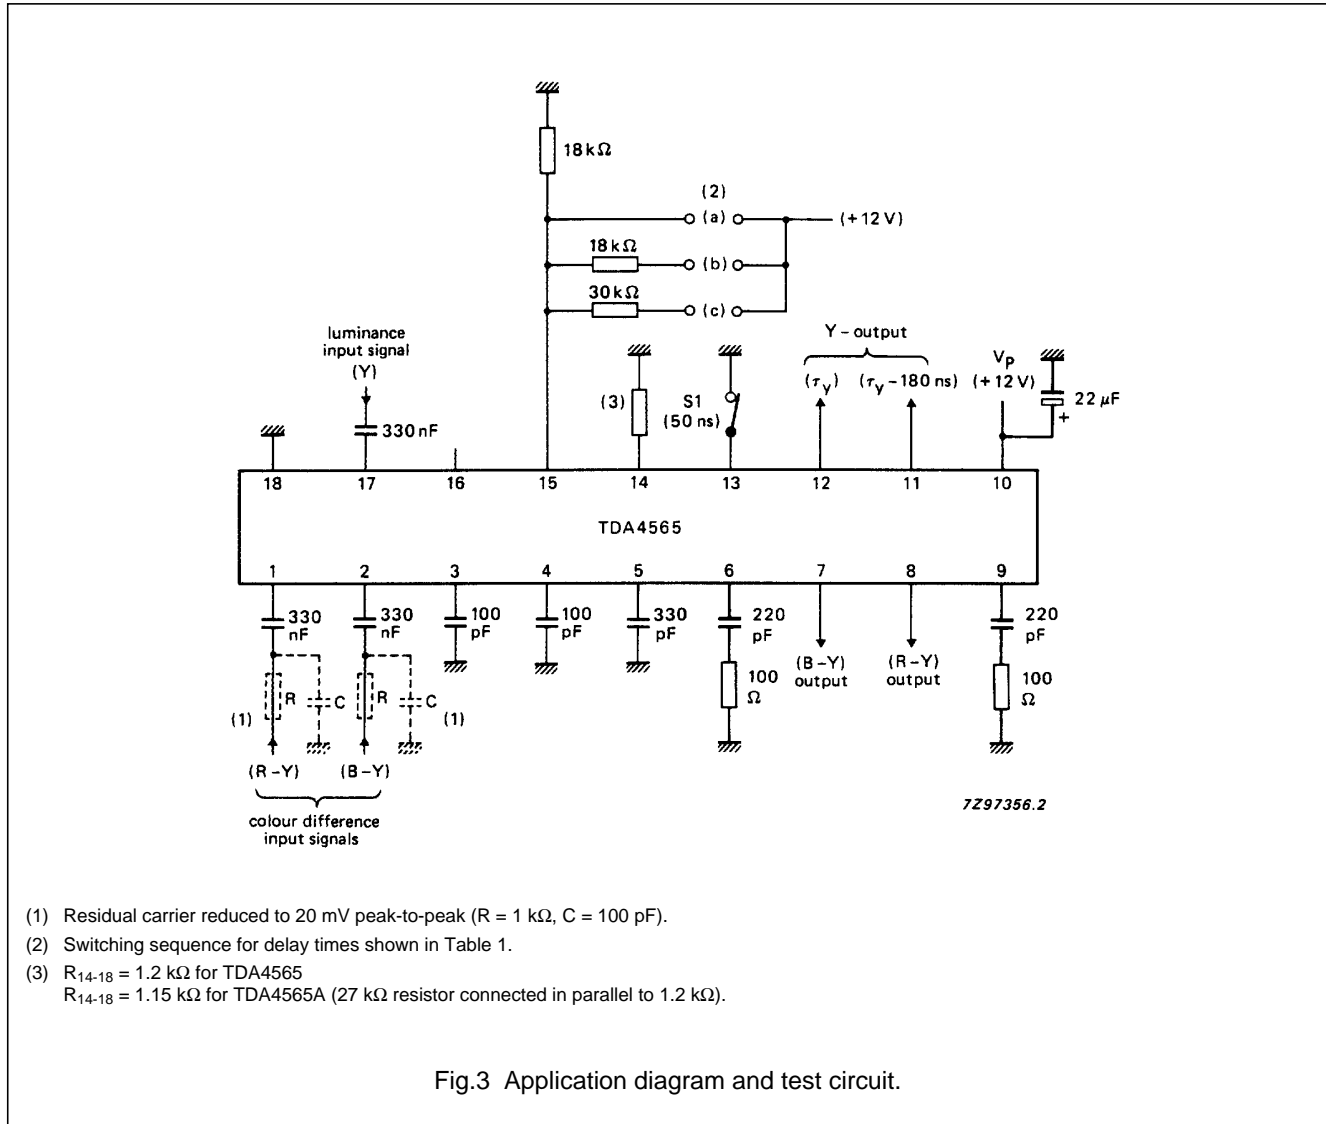

Fig.3 Application diagram and test circuit.
$V_P = V_{10-18} = 12\text{ V}$; $T_{\text{amb}} = 25\text{ °C}$; measured in application circuit Fig.3; unless otherwise specified
1. Output signal transient time measured with $C_{6-18} = C_{9-18} = 220 \text{ pF}$ without resistor (see Fig.3).